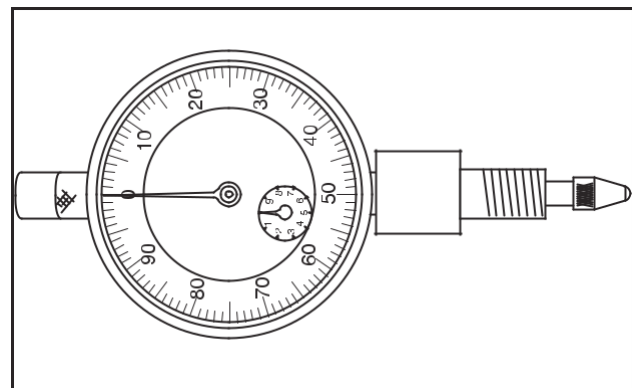

Fig. 4 – Setting Indicator
4. Slowly rotate crankshaft counter-clockwise until dial indicator needle just stops moving. Set dial indicator at “0,” Fig. 4.